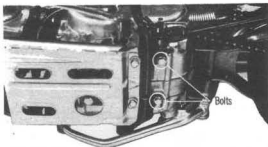

Fig. 93
- (7) Remove the step bar from the crankcase by removing the 8 mm hex. bolts (Fig. 93).